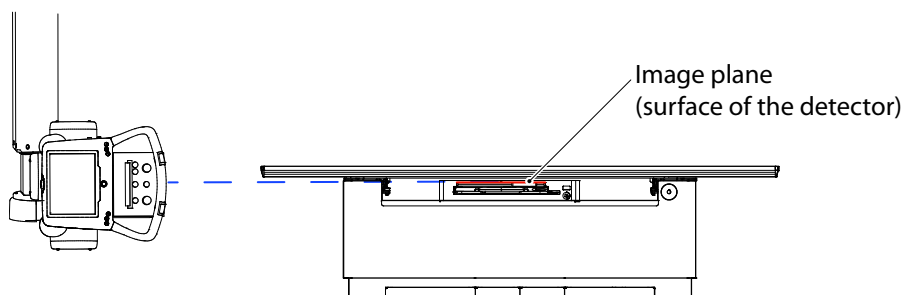

Fig. 4-176 Highest Table position
Position the OTC with the navigation buttons. See **Fig. 4-176**.
4. Move the Table to the highest position and point at the same spot as mentioned above. See **Fig. 4-176**.